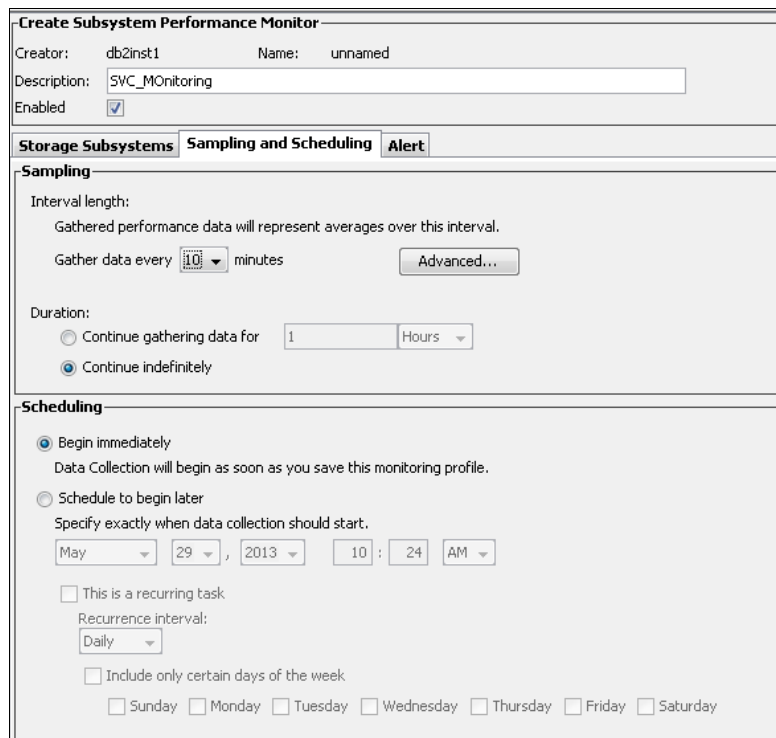

Figure 11-93 Create subsystem performance monitor
3. After you create a probe, you can click **Create Subsystem Performance Monitor**, as shown in Figure 11-93.